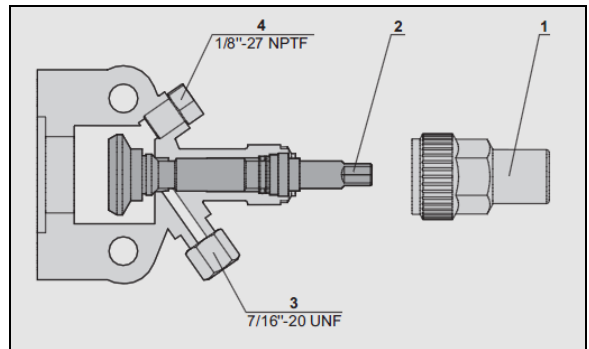

FIGURE 96: COMPRESSOR SHUT-OFF VALVE BACKSEATED POSITION (NORMAL OPERATING POSITION)
4. Backseat the compressor suction shutoff valve (FIGURE 96).
13. Shut down engine and backseat suction and discharge shutoff valves (FIGURE 96).
2. Backseat (stem out) the two compressor shutoff valves (FIGURE 96).
3. Install A/C pressure gauges at the compressor shutoff valves service ports (item 4, FIGURE 96).